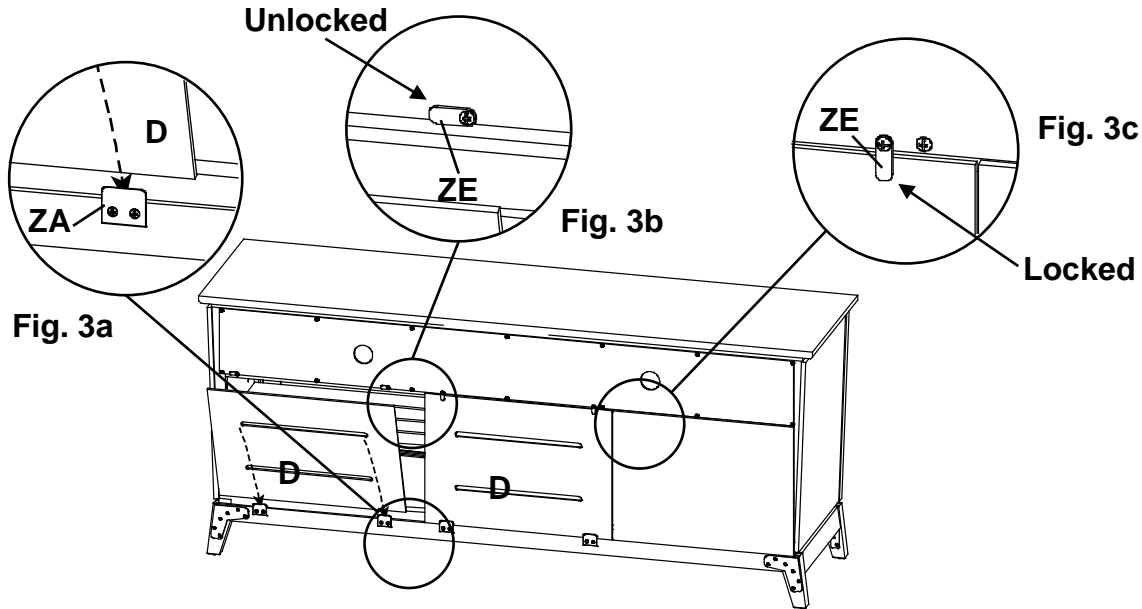

Fig. 3
3. To insert your media components and access wires more easily, you may want to remove the Removable Backs (D). To do so, unlock the Turn Buttons (ZE) as shown in Figures 3 and 3b. Slide the Backs away and place them off to the side. After installing the components, slide the Backs (D) behind the Drawer Stops (ZA) and lock the Turn Buttons. See Figures 3, 3a, 3b, 3c.